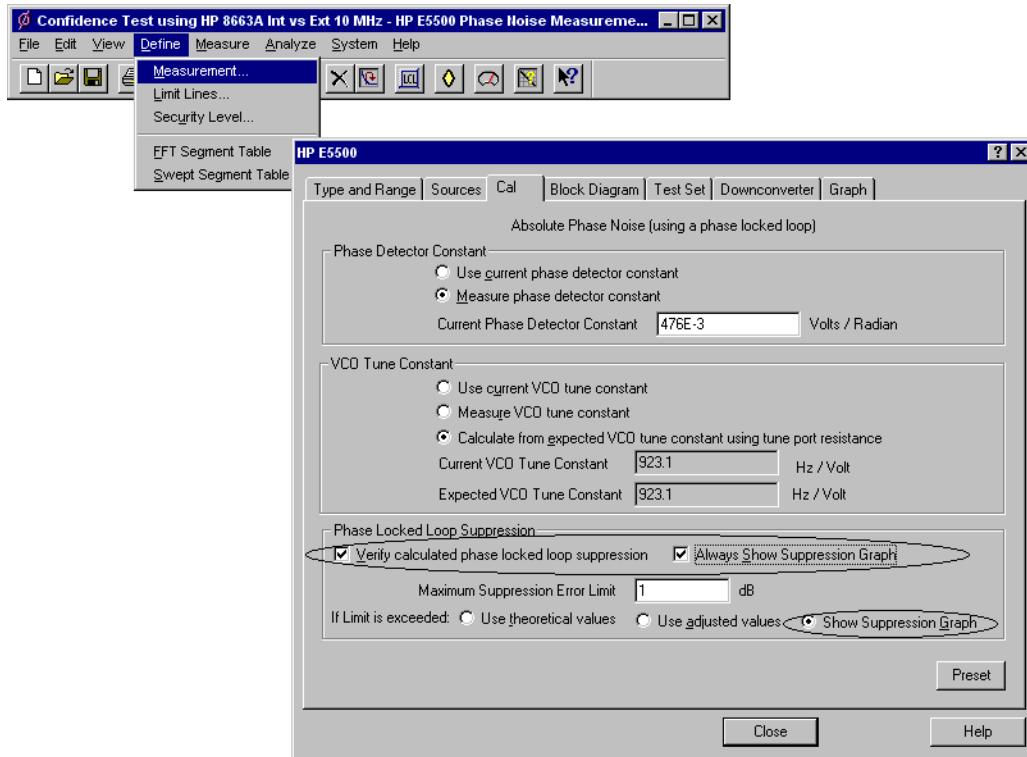

Figure 7-48 Selecting Loop Suppression Verification
- 1 Using Figure 7-48 as a guide, navigate to the **Cal** tab.